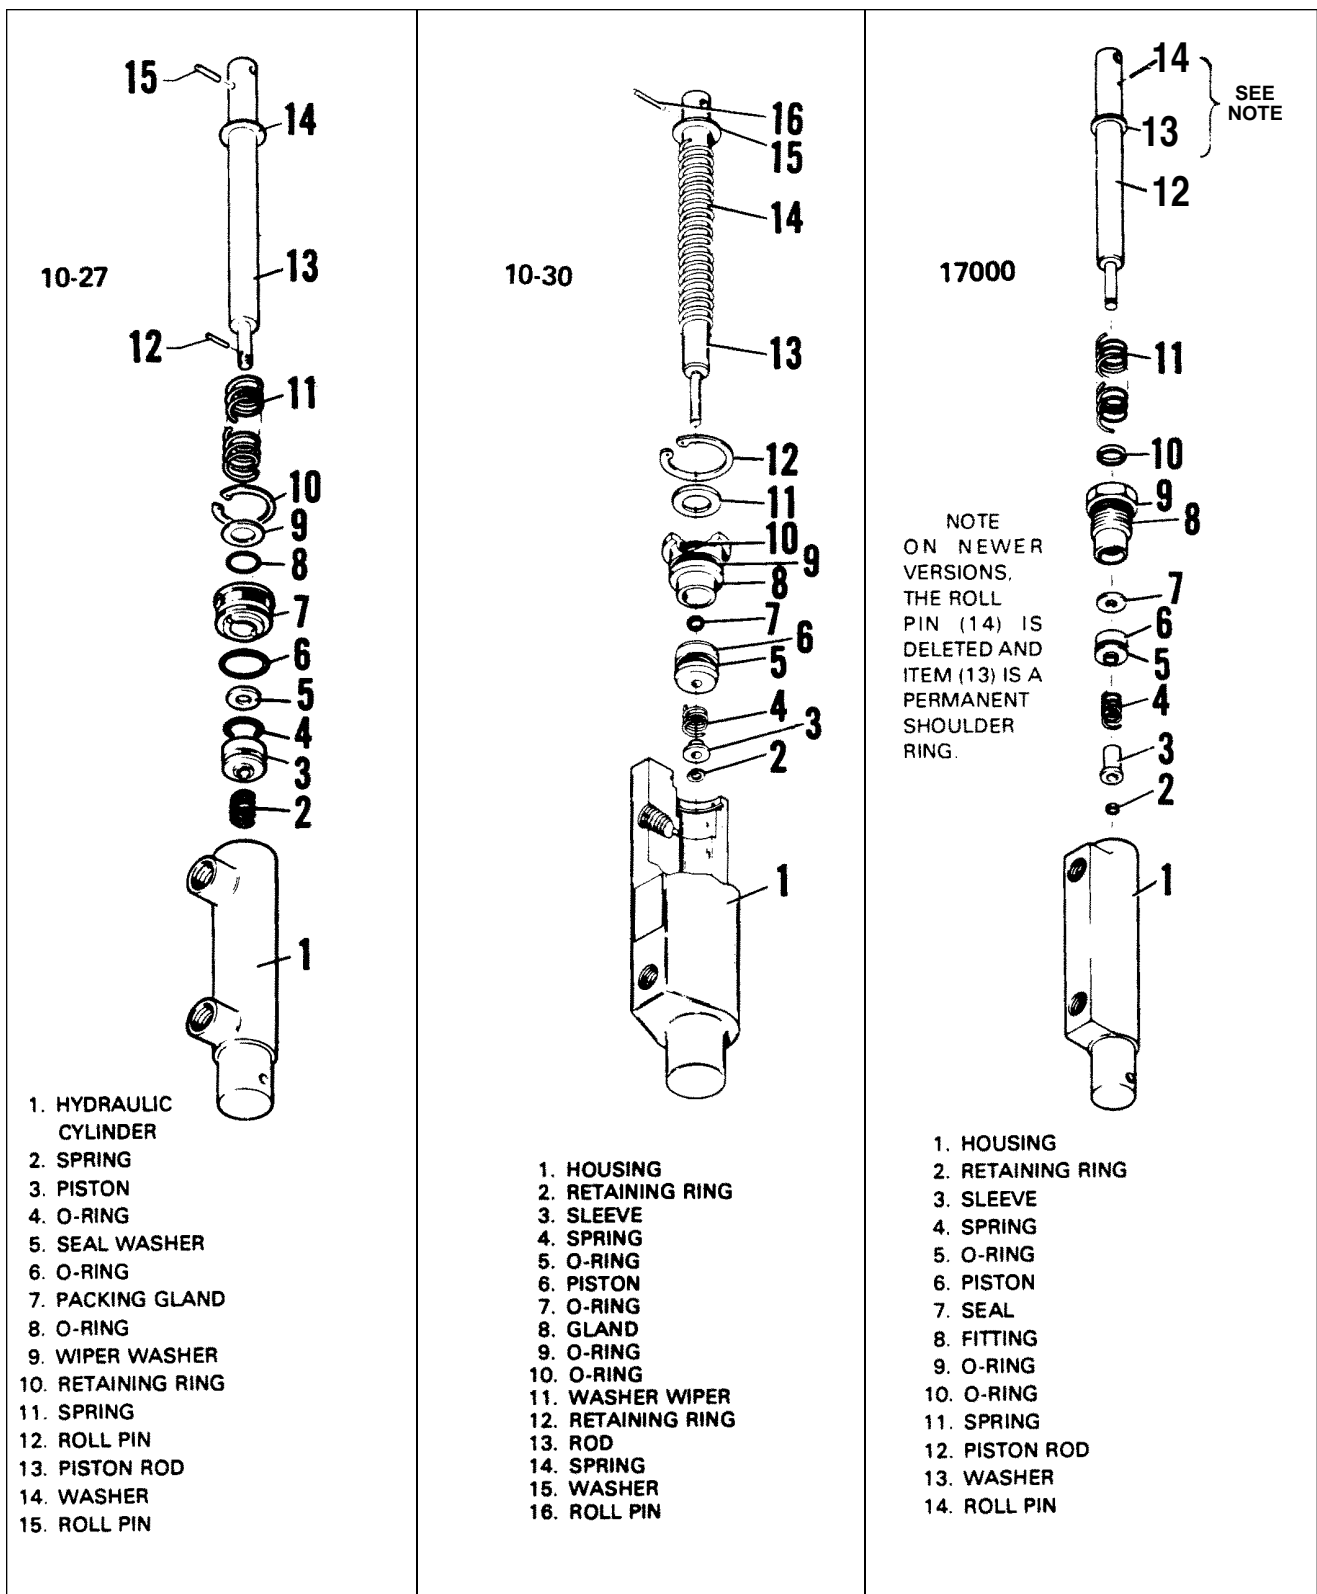

Figure 7-14. 10-27, 10-30 and 17000 Toe Brake Brake Cylinders
a. Cleveland cylinder number 10-27. (Refer to Figure 7-14.)
2. To disassemble the cylinder, first remove the piston rod assembly by removing the retaining ring (10) from the annular slot in the cylinder housing (1). Draw the piston rod assembly from the cylinder.
3. The piston rod assembly may be disassembled by first removing the roll pin (12) and then the piston assembly (3), seal (5), packing gland (7).
- b. Cleveland cylinder number 10-30. (Refer to Figure 7-14.)
- 2. To disassemble the cylinder, first remove the piston rod assembly by removing the retaining ring from the annular slot in the cylinder housing (1). Draw the piston rod assembly from the cylinder.
- 3. The piston rod assembly may be disassembled by first removing the retaining ring (2), sleeve (3), spring (4), and then the piston assembly, O-ring (5), and gland (8), and, if desired, the return spring (14).
- c. Gar-Kenyon cylinder number 17000. (Refer to Figure 7-14.)
- 2. To disassemble the cylinder, first remove the piston rod assembly by unscrewing the fitting (8) from the cylinder.
- 3. The piston rod assembly may be disassembled by first removing the retaining ring (2) securing the sleeve (3) and then removing the spring (4), piston (6), seal (7), fitting (8), and, if desired, the large return spring (11).
### 7-43. ASSEMBLY OF TOE BRAKE CYLINDER. (Refer to Figure 7-14.)
- a. Cleveland cylinder number 10-27. (Refer to Figure 7-14.)
- 1. Install new O-rings on the inside and outside of the packing gland (7) and on the outside of the piston (3).
- 2. To assemble the piston rod assembly, install on the rod (13), in order, the roll pin (15), washer (14), spring (11), washer (9), packing gland (7), seal (5), piston assembly (3), spring (2), and roll pin (12).
- 3. Insert the piston rod assembly in the cylinder (1) and secure with the retaining ring (10).
- b. Cleveland cylinder 10-30. (Refer to Figure 7-14.)
- 1. Install new O-rings on the inside and outside of the packing gland (8) and on the outside of the piston (6).
- 2. To assemble the piston rod assembly, install on the rod (13), in order, the roll pin (16), washer (15), spring (14), washer(11), packing gland (8) with O-rings, seal (5), piston assembly (6) with O-ring, spring (4), sleeve (3) and retaining ring (2).
- 3. Insert the piston rod assembly in the cylinder (1) and secure with the retaining ring (12).
1. Install new O-rings on the inside and outside of the fitting (8) and on the outside of the piston (6).
2. To assemble the piston rod assembly, install on the rod (12), in order the roll pin (14), return spring retainer washer (13), return spring (11) fitting (8) with O-rings, seal (7), piston (6) with O-ring, spring (4) and sleeve (3). Secure these pieces with the retaining ring (2) on the end of the rod.
3. Insert the piston rod assembly in the cylinder (1) and secure fitting (8).